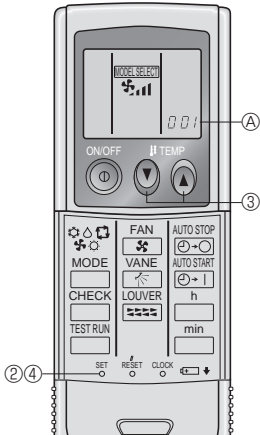

Fig. 6-3
3) Setting (Fig. 6-3)
- ① Insert batteries.
- ② Press the SET button with something sharp at the end.